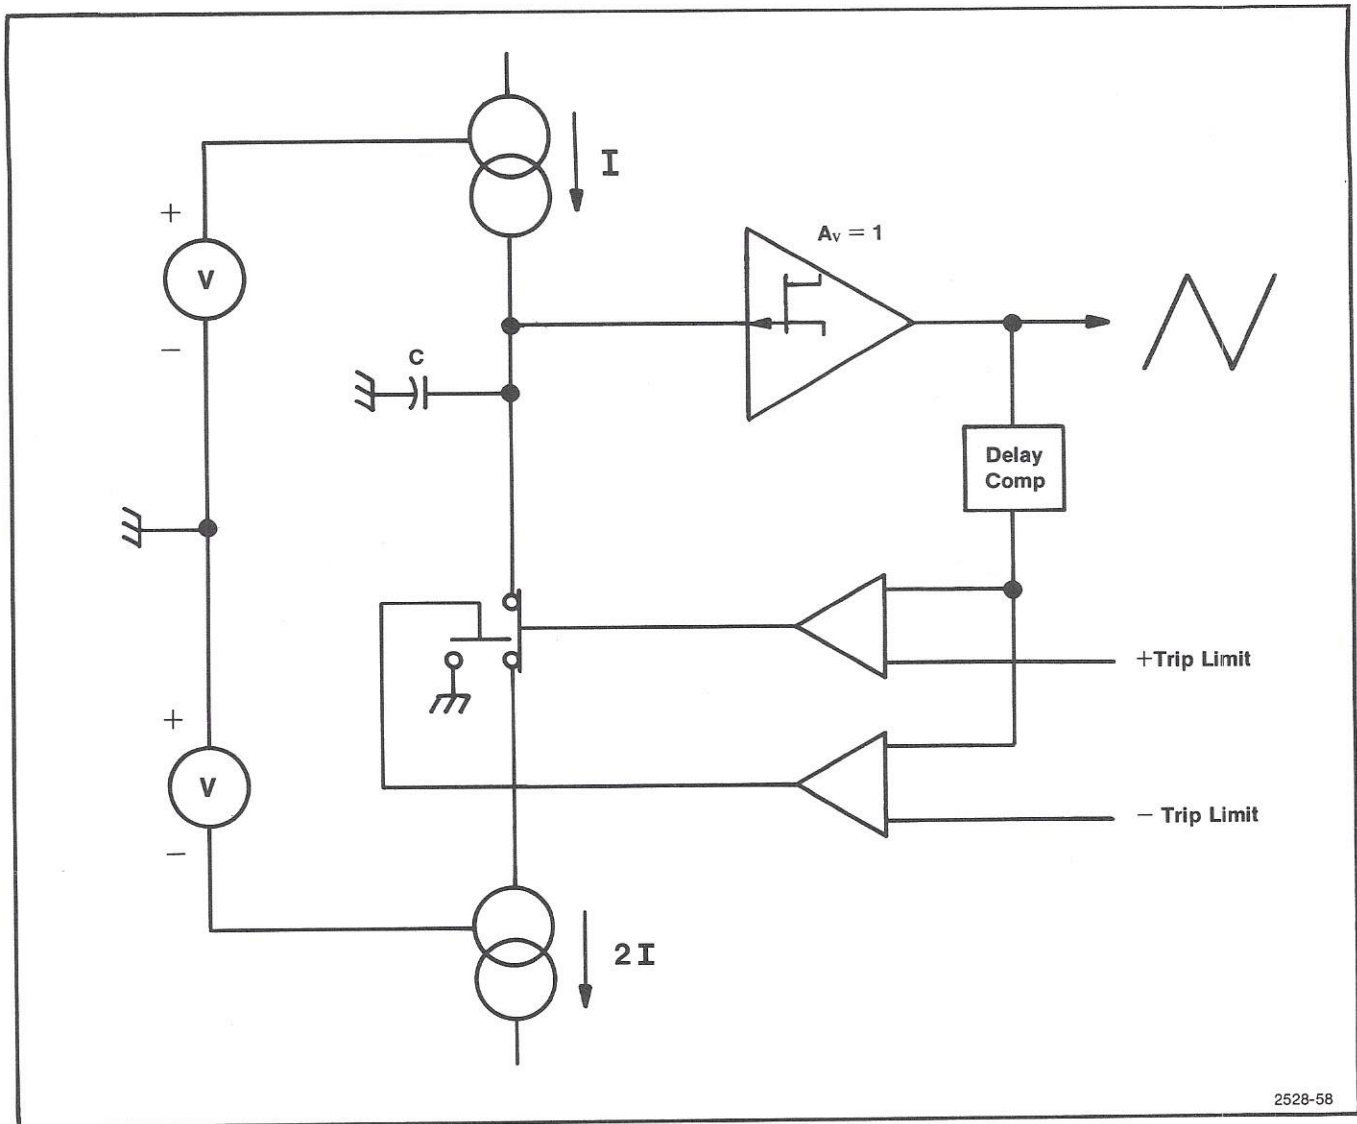

Fig. 5-5. Simplified diagram of Voltage-Controlled Oscillator.
The Voltage-Controlled Oscillator consists of: (1) a paraphase input amplifier, (2) unswitched current source of value  $I$ , (3) switched current source of value  $2I$ , (4) current switches, (5) slew-rate limiting capacitors, (6) amplification stages, (7) level-sense latching comparators, and (8) start/stop logic. The operation of the VCO will be discussed first in terms of the simplified diagram (see Fig. 5-5) and then by schematic diagram.